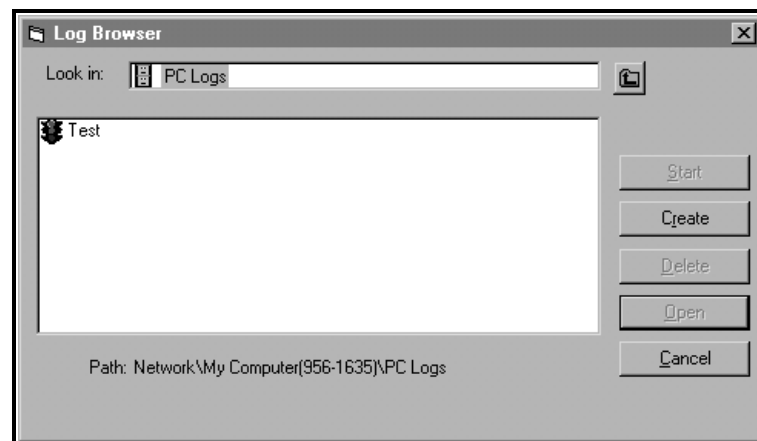

Figure 3-7: Create a PC Log
3. Double click on *PC Logs* to advance to the dialog box shown in Figure 3-7 below.
4. At the dialog box shown in Figure 3-7 above, click on the [Create] option button to create a new meter log.